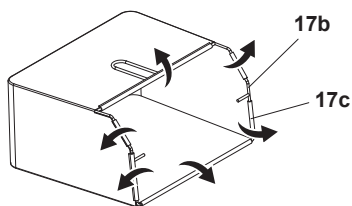

Fig. 5
2. Clip the six rubber clips (17c) to the steel frame (17b) (Fig. 5).
3. The Grass catcher (17) is ready for use.